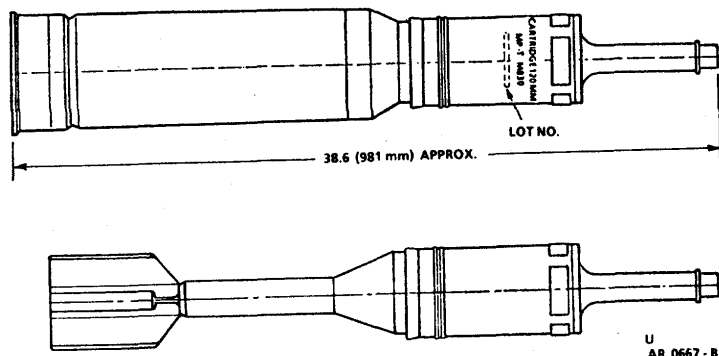

Figure 3. Cartridge, 120mm: HEAT-MP-T-M830.
c. Description for Cartridge, 120mm: HEAT-MP-T, M830 (fig. 3).
(1) The M830 HEAT-MP-T, 120mm cartridge is a direct translation of the German DM12A1 round with the exception that a U.S. designed fuzing system and explosive (Comp A3, Type II) is used.
(2) The 120mm HEAT-MP-T M830 is a high explosive round having both antiarmor and antipersonnel capabilities. The round consists of a steel body loaded with explosive surrounding a copper shaped charge liner and wave shaper. The projectile embodies a steel spike with a shoulder and nose switching mechanism for full frontal area functioning and graze impact which initiates a base detonating fuze. The fuse is located at the rear of the projectile body. The projectile body has a copper obturator, boom and fin assembly for flight stabilization. The fin contains a tracer for projectile to target visual tracking.
(3) The propellant system utilizes a metal cartridge case base with a rubber obturator at the stub case mouth. M123A1 primer and a combustible wall which encapsulates stick propellant within six containment devices to prevent spillage should breakage or separation occur.
(4) The weight of the complete cartridge is approximately 53.4 pounds (24.2 kg) with the approximate weight of the projectile being 30 pounds (13.5 kg).